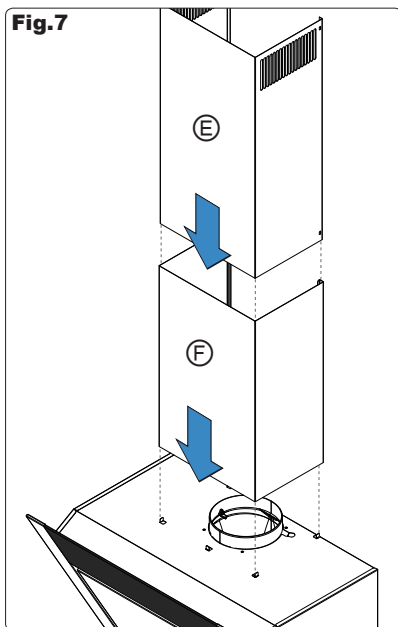

Fig.8
- Affix the bracket **Z** (fig.8) to the wall via the drill holes **C**.